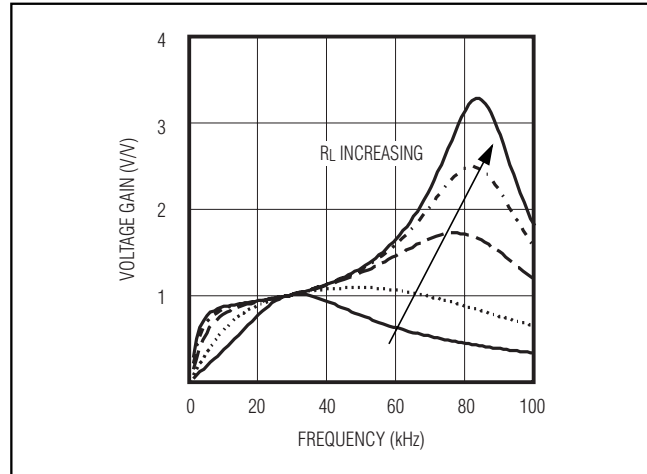

Figure 8. Frequency Response of the Resonant Tank
Figure 8 shows the frequency response of the resonant tank's voltage gain under different load conditions. The primary series capacitor is 1μF, the secondary parallel capacitor is 15pF, the transformer turns ratio is 1:178, and the secondary leakage inductance is 260mH. Notice that there are two peaks, f_s and f_p , in the frequency response. The first peak, f_s , is the series resonant peak determined by the secondary leakage inductance (L) and the series capacitor reflected to the secondary (C's):